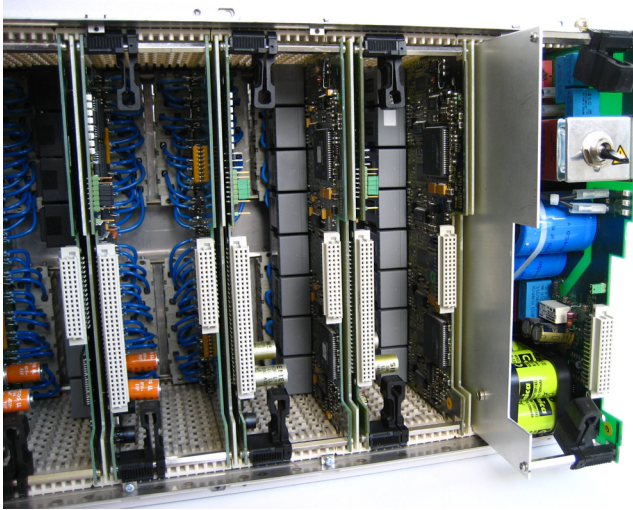

Figure 2-7 Pulling the power supply module out
- Pull the power supply module forward (see Figure 2-7).